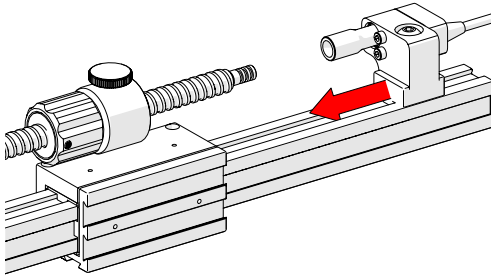
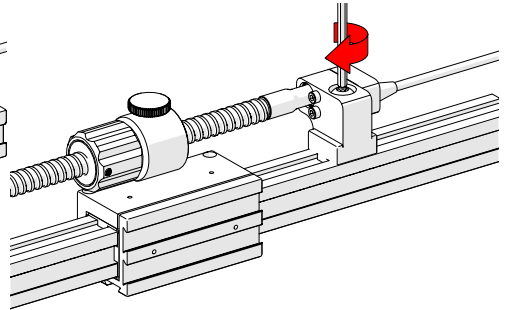

Fig. 143 - Loosen and slide post in place
Fig. 144 - Align and mount post
2. Slide the encoder's dovetail nut onto the frame bar (Fig. 143), and continue sliding the encoder towards the leadscrew until the leadscrew and the encoder's coupling are attached (Fig. 144).
3. Tighten the encoder's lock screw (Fig. 144).